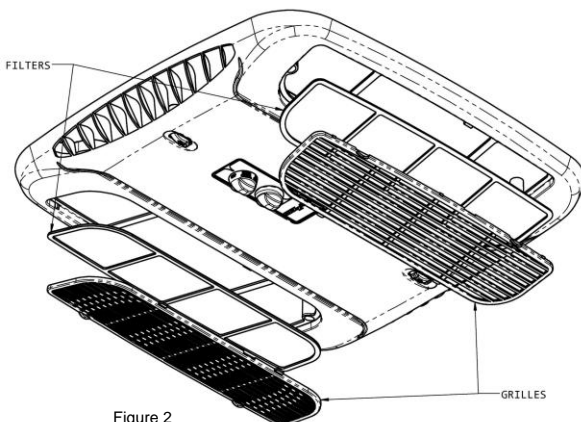

Figure 2
3. Re-install the filters and grilles in the ceiling assembly as shown in Figure 2, page 10.